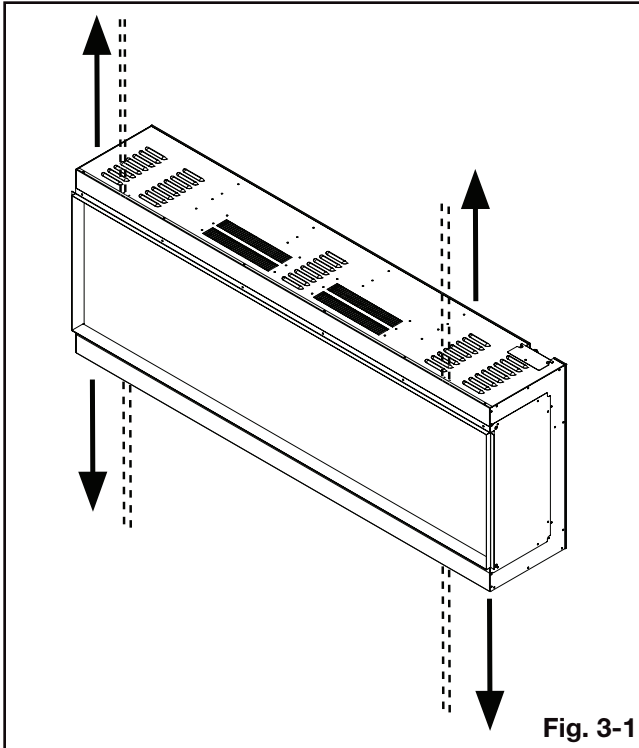

Fig. 3-1
1. Remove the 8 screws and washers from the top and bottom of the appliance (**Fig. 3-1**).